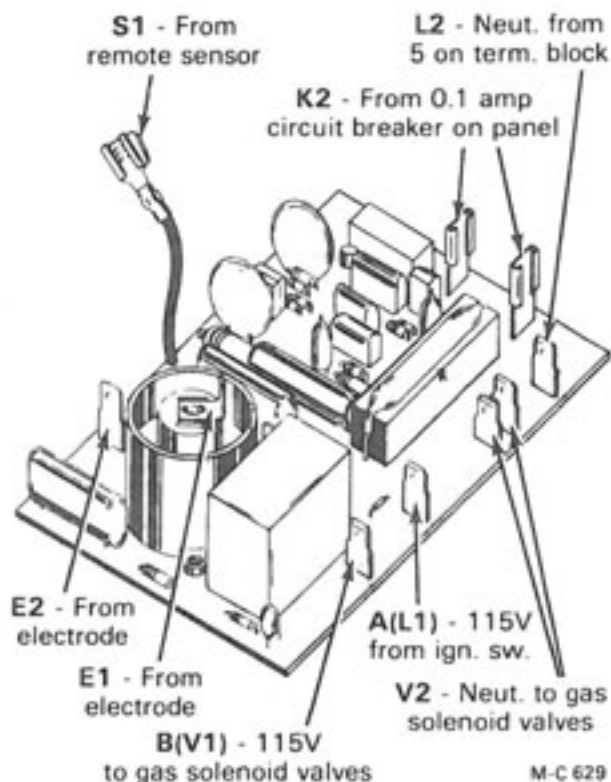

Figure 37
8. If there is 115V between terminal A (L1) and L2 check for 115V at terminal B (V1) on the ignition board, see Figure 37 and 38. Connect a voltmeter between terminal V2 and B (V1) on the ignition board.